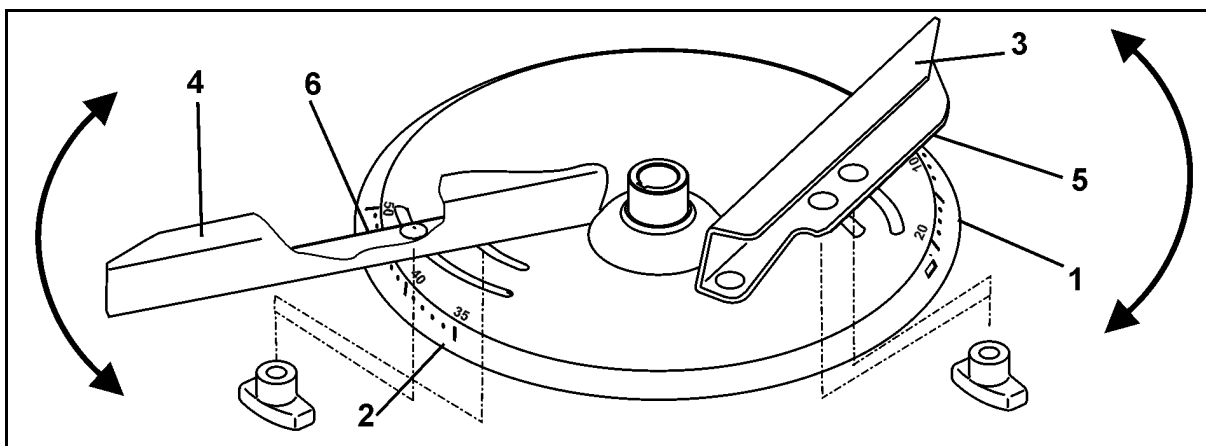

Fig. 62
Two different scales, designed so as to make it impossible to confuse them, are arranged on each spreading disc for precision setting of the individual spreading vane positions (Fig. 62/1 and Fig. 62/2).
- The shorter spreading vanes (Fig. 62/3) are assigned the scale (Fig. 62/1) with values from 5 to 28; the longer spreading vanes (Fig. 62/4) are assigned the scale (Fig. 62/2) with the values from 35 to 55.
- For the short spreading vane (Fig. 62/3), read off the set value on the read-off edge (Fig. 62/5).
- For the long spreading vane (Fig. 62/4), read off the set value on the read-off edge (Fig. 62/6).
- Swivelling the spreading vanes to a higher scale value (Fig. 62/1 or Fig. 62/2) increases the working width.